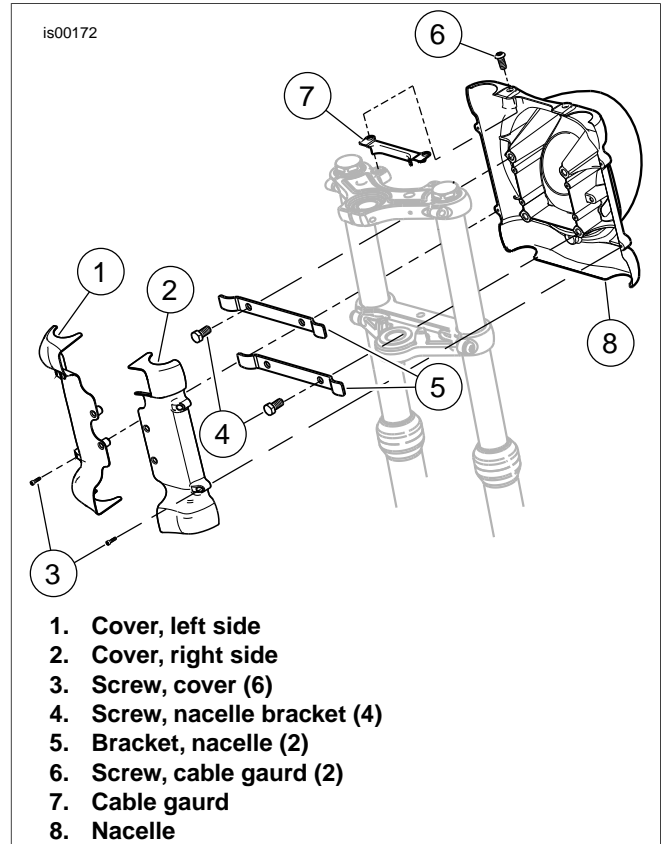

Figure 5. Nacelle and Cover Installation
8. See Figure 5. Apply 2-3 drops of Loctite® 242 (blue) to the threads of two screws (6). Install cable guard (7) and nacelle (8) to the upper triple clamp using two screws (6), ensuring cable guard locates between the nacelle and upper fork bracket. Tighten the screws to 10-15 **ft-lbs** (13.5-20.3 Nm).
9. See Figure 5. Apply 2-3 drops of Loctite® 242 (blue) to the threads of four screws (4). Install two brackets (5) to the nacelle using the four screws (4). Tighten screws to 25-30 **ft-lbs** (33.9-40.7 Nm).